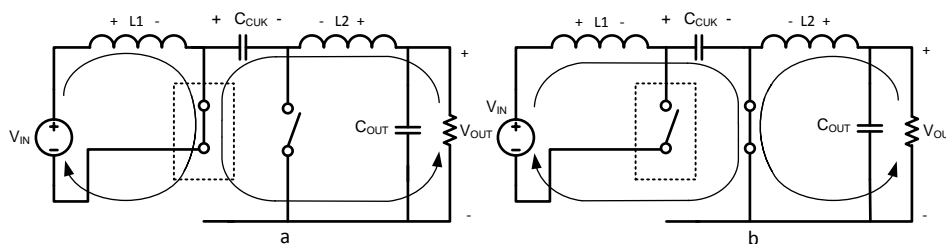
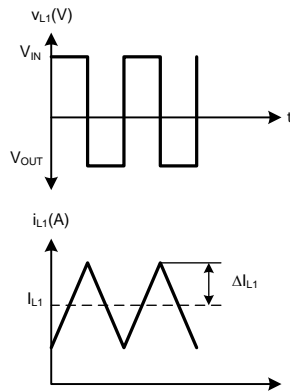
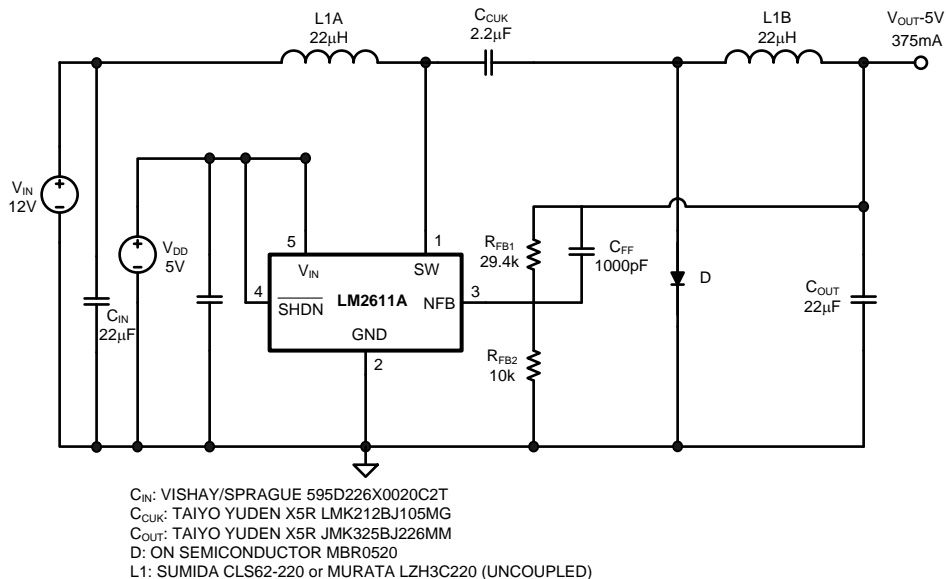

Figure 13. Operating Cycles of a Cuk Converter
Figure 14. Voltage and Current Waveforms in Inductor L1 of a Cuk Converter
Figure 15. Schematic of the Cuk Converter Using LM2611
The operating states of the Cuk converter are shown in Figure 13. During the first cycle, the transistor switch is closed and the diode is open.  $L_1$  is charged by the source and  $L_2$  is charged by  $C_{CUK}$ , while the output current is provided by  $L_2$ . In the second cycle,  $L_1$  charges  $C_{CUK}$  and  $L_2$  discharges through the load. By applying the volt-second balance to either of the inductors, use Equation 1 to determine the relationship of  $V_{OUT}$  to the duty cycle (D).
Figure 14 and Figure 15 show the steady-state voltage and current waveforms for L1 and L2, respectively. Referring to Figure 13 (a), when the switch is closed,  $V_{IN}$  is applied across L1. In the next cycle, the switch opens and the diode becomes forward biased, and  $V_{OUT}$  is applied across L1 (the voltage across  $C_{CUK}$  is  $V_{IN} - V_{OUT}$ .)
The voltage and current waveforms of inductor L2 are shown in Figure 15. During the first cycle of operation, when the switch is closed,  $V_{IN}$  is applied across L2. When the switch opens,  $V_{OUT}$  is applied across L2.
Equation 2 to Equation 5 define the values given in Figure 14 and Figure 15:
The input current waveform to a Cuk converter is continuous and triangular, as shown in Figure 14. The input inductor insures that the input capacitor sees fairly low ripple currents. However, as the input inductor gets smaller, the input ripple goes up. The RMS current in the input capacitor is shown in Equation 7.
Like the input current, the output current is also continuous, triangular, and has low ripple (see  $I_{L2}$  in Figure 15). The output capacitor must be rated to handle its RMS current: